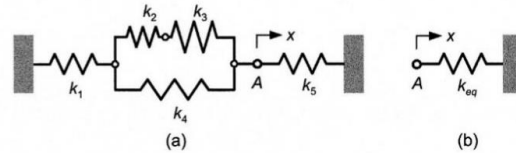

FIGURE 2.35
- 2.1 Several springs are connected as illustrated in Figure 2.35(a). Knowing the individual springs stiffnesses $k_1 = 20 \text{ N/m}$, $k_2 = 30 \text{ N/m}$, $k_3 = 15 \text{ N/m}$, $k_4 = 25 \text{ N/m}$, and $k_5 = 35 \text{ N/m}$, calculate the equivalent stiffness k_{eq} of this spring ensemble, see Figure 2.35(b), which corresponds to point A of the original chain.